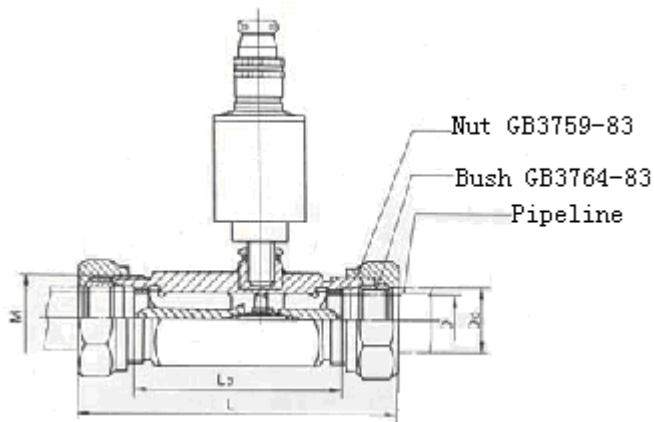
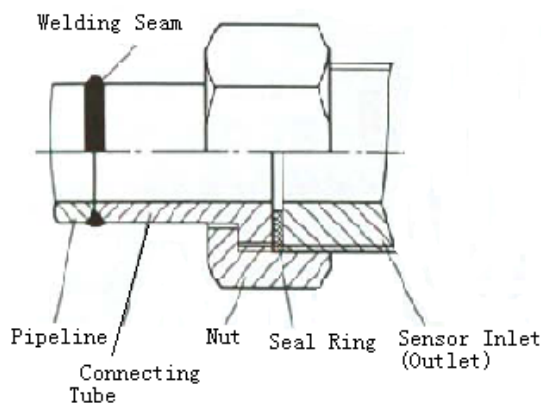
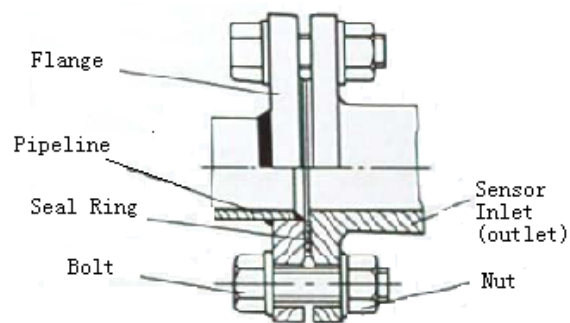

Fig.5 Dimensions for LWGY-6~25, PN16, PN25, PN40
Fig.9 Connecting Diagram
Fig.10 Connecting Diagram
2) Dimensions for LWGY-6~25, PN16, PN25, PN40 (Bushing Fix): shown on Fig.5 and Table 3.
- (1) Check the Sensor and its auxiliaries before installation
- (2) the recommended connection between sensor and pipeline is shown on Fig.9 and Fig.10; the connection for PN16 and PN25 Sensor as per Fig.5 by using Bushing fix; Seal Ring materials should be applicable to the fluid to be measured, no corrosion, and no chemical reaction occurs; Seal-Ring outer/inner diameter shall be in such a size that it will not stick out into the pipeline even if it might be installed eccentrically;
- (3) all equipments need cleaning prior to installation; to ensure no welding residues or foreign objects are left in the pipeline;
- (4) in case of newly-installed pipeline wiping-off, Sensor and Filter should be replaced by straight pipes in advance, restore them after wiping-off